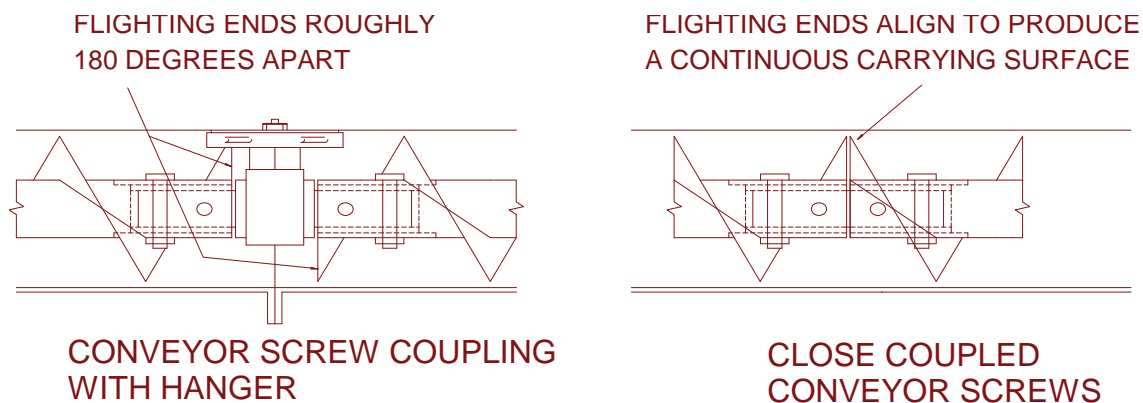

FIGURE 4
9. Place next screw section in trough and fit into coupling so that flighting end is about 180 degrees from end of flighting of the first section. (See Figure 4). Install coupling bolts.